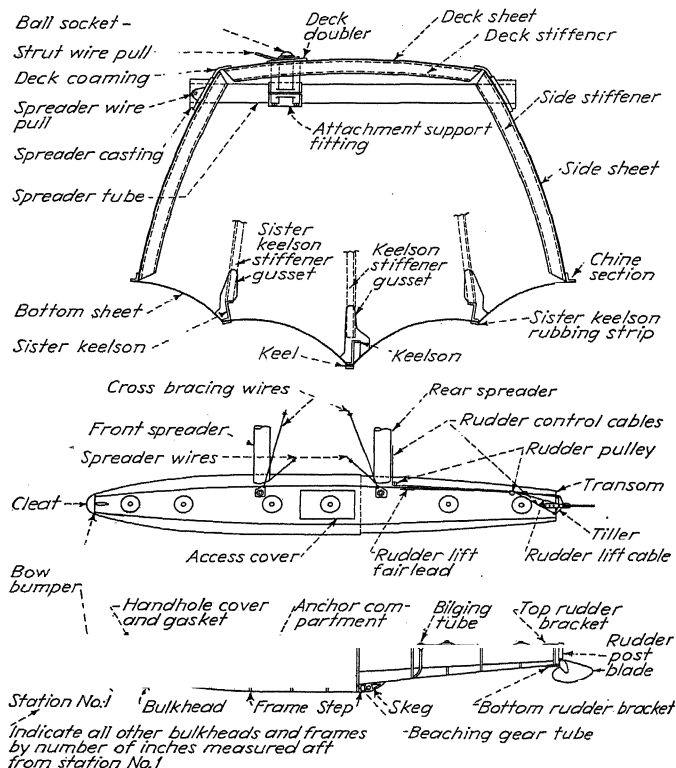

FIG. 28.—A section and outline of floats with parts named.
*Ordering Parts.*—In ordering parts it is important that the *exact model* and *serial number* of both the floats and the aircraft be supplied in all cases, together with *specific information as to the exact parts required*, and where possible the *part numbers* shown on the installation drawings or packing sheets should be indicated. Float parts are named in Fig. 28.